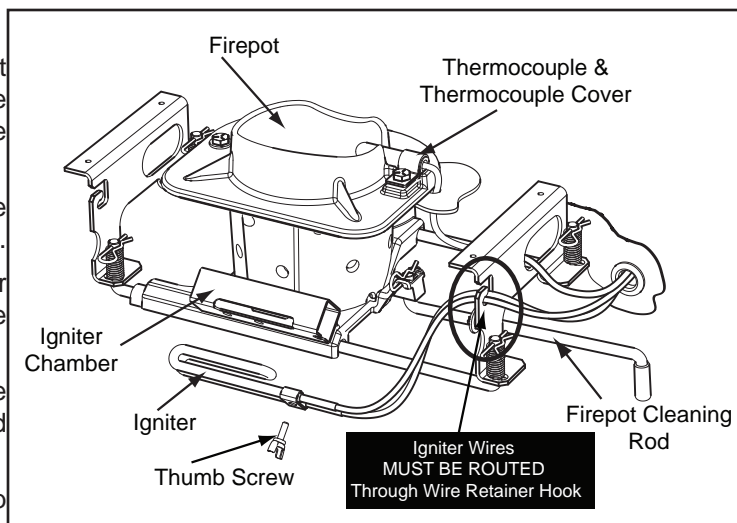

Figure 21.1
3. Install new igniter into the chamber and tighten thumb screw. The wires **MUST** route through the wire retainer hook and then re-connect the wires to the 2 leads with the spade connectors. **Figure 21.1**.